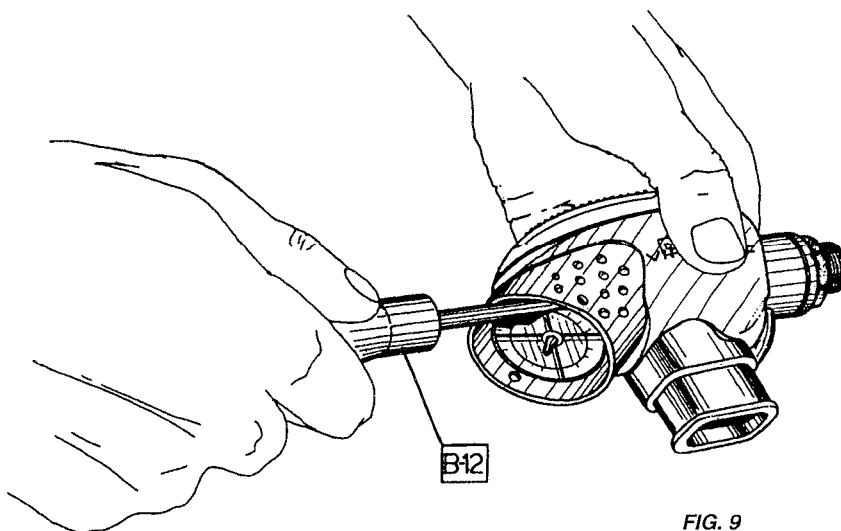

FIG. 9
6. Raise the exhaust valve with the special tool (B-12) and lock down or back off the adjusting nut (33) to regulate the height of the demand lever (35). (FIG.9).